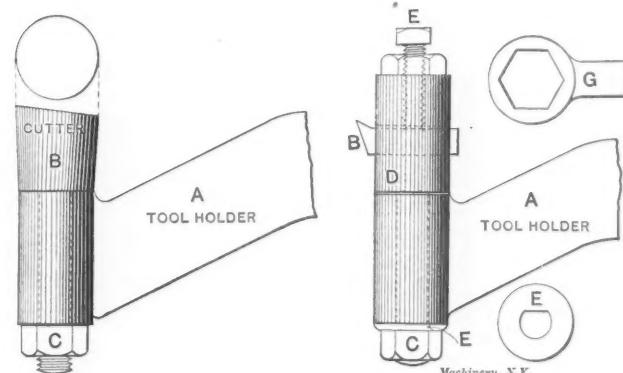

Fig. 6.
H. J. M. describes two forms of lathe tools that are well adapted for accurately turning grooves or fillets of any desired radius. The tool shown in Fig. 6 has a circular cutter B which is turned with a shank fitting the hole through the holder A and is held in position by the nut C on the under side. The cutter B is turned slightly tapering for clearance and can be made concave on top or can be ground to an angle as shown. As these